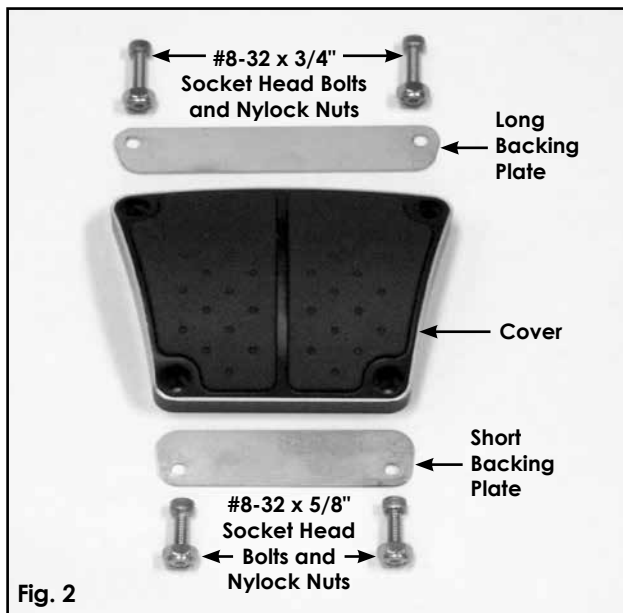

Fig. 2
**Step 3, Manual Transmission Brake and Clutch Pedals (Fig. 2):**